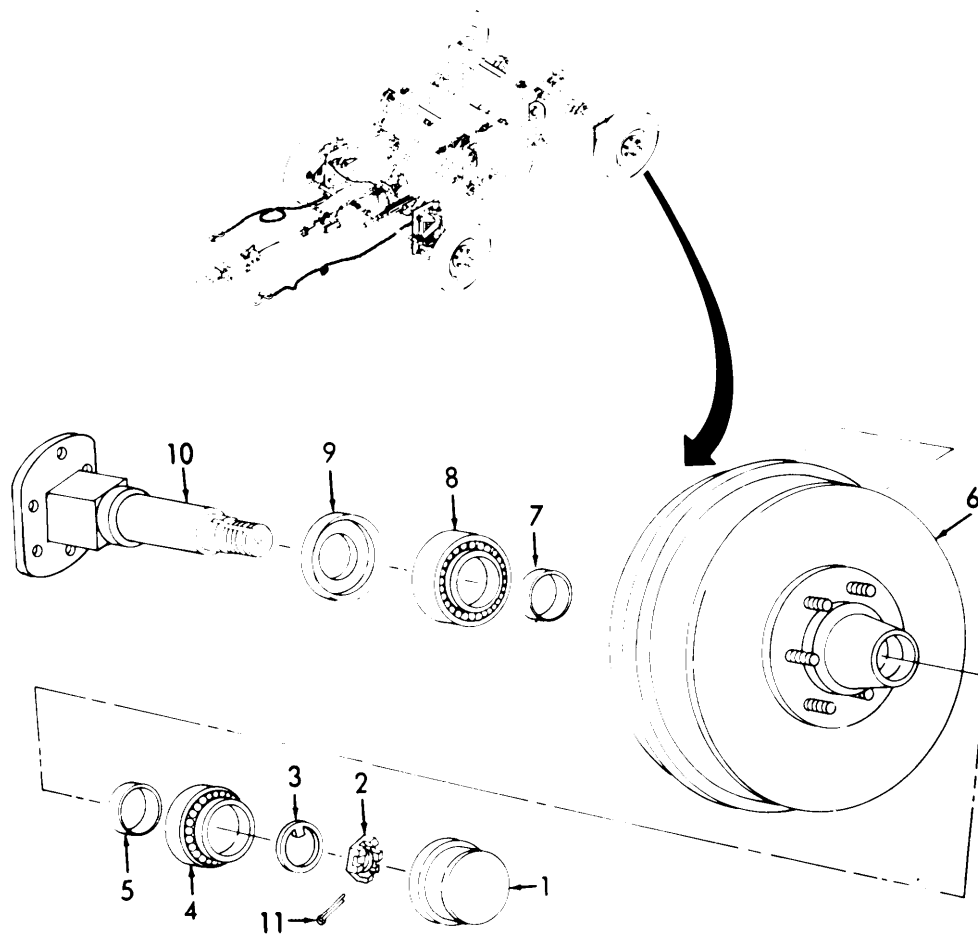

Figure 3-37. Rear Wheel Bearings, Installation.
- (1) Install grease seal (9, Figure 3-37) bearing (8), and retainer (7) on spindle (10).
- (2) Install cup (5) and bearing (4) in drum (6).
- (3) Position drum (6) on spindle (10).
- (4) Install key washer (3) and nut (2).
- (5) Install new cotter pin (MS24665-357) (11) through nut (2) and spindle (10).
- (6) Install grease cap (1).